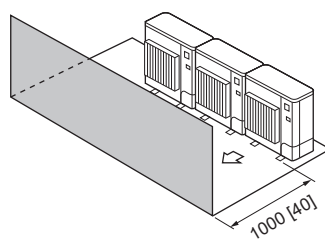

Fig. 2-14
3. Obstacles at front only (Fig. 2-14)